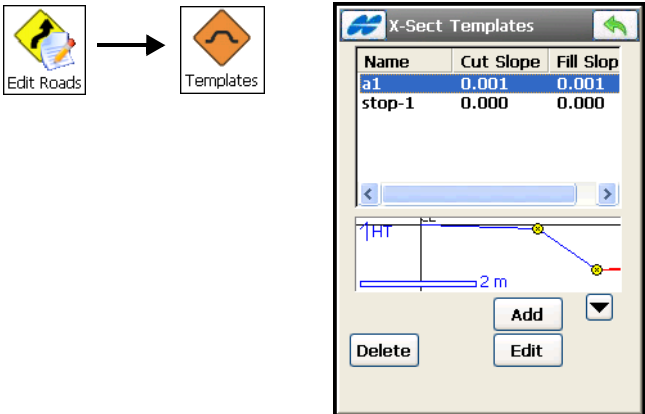

Figure 7-22. X-sect Templates
To work with Cross-Section Templates, tap **Edit Roads ▶ Templates**. The X-Sect Templates screen displays (Figure 7-22).
1. To create a cross-section, tap the **Add** button on the *X-Sect Templates* screen (Figure 7-22).